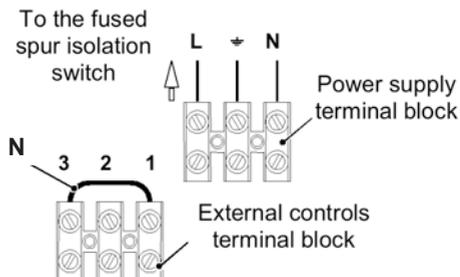

Fig. 6.17
- Connect the electrical supply flexible cord coming from the fused spur isolation switch to the power supply terminal block of the boiler (Fig. 6.17) keeping the same connections for the live (brown wire) and the neutral (blue wire). External 3 A fuse or fused plug with same current rating is recommended. **Do not connect live wires to terminals to which the room thermostat must be connected.**
**When connecting any type of external control, the link N in Fig. 6.17 must be removed.**